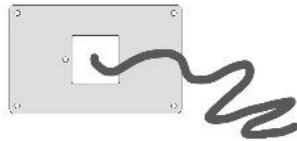

Figure 6 - AC power cables routed out of concrete
2. Route AC power-in conduit/cable up through concrete pad or driveway at center mark for pedestal baseplate (Figure 6), leaving sufficient cable length to later route cable up and through pedestal and into mounted charger.